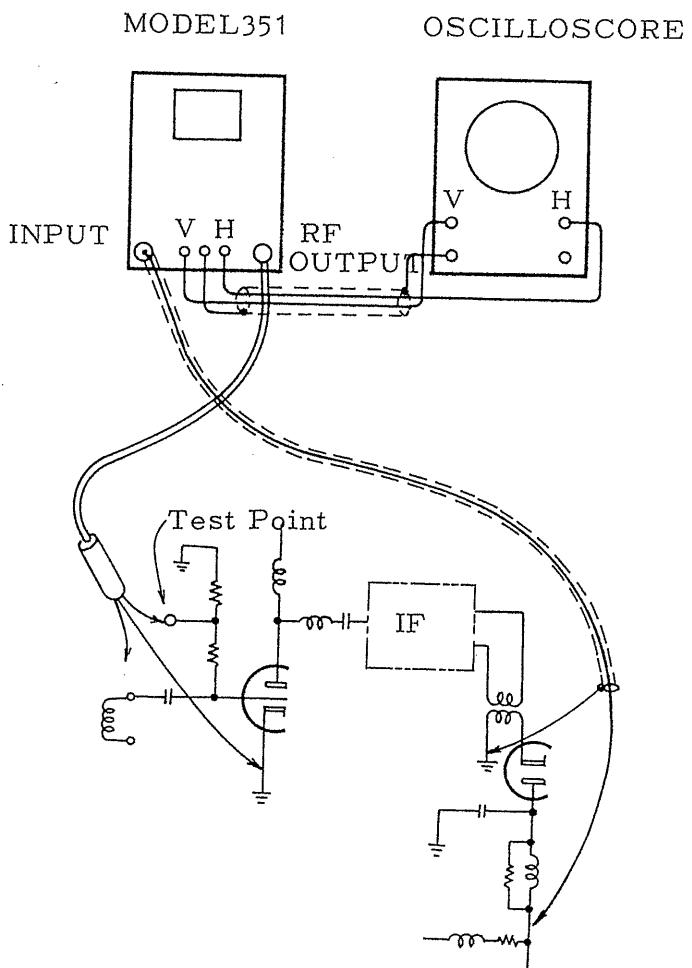

Fig. 4-1
(B) Wire between Model 351 and TV set to be measured as shown in Fig 4-1.
(See Fig. 4-1, 5-1, 5-2)